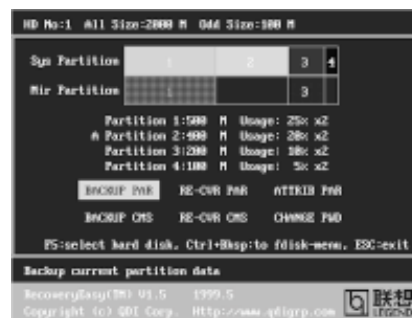

figure-3 Recovery User Interface
**2. Recovery Interface (see figure-3)**